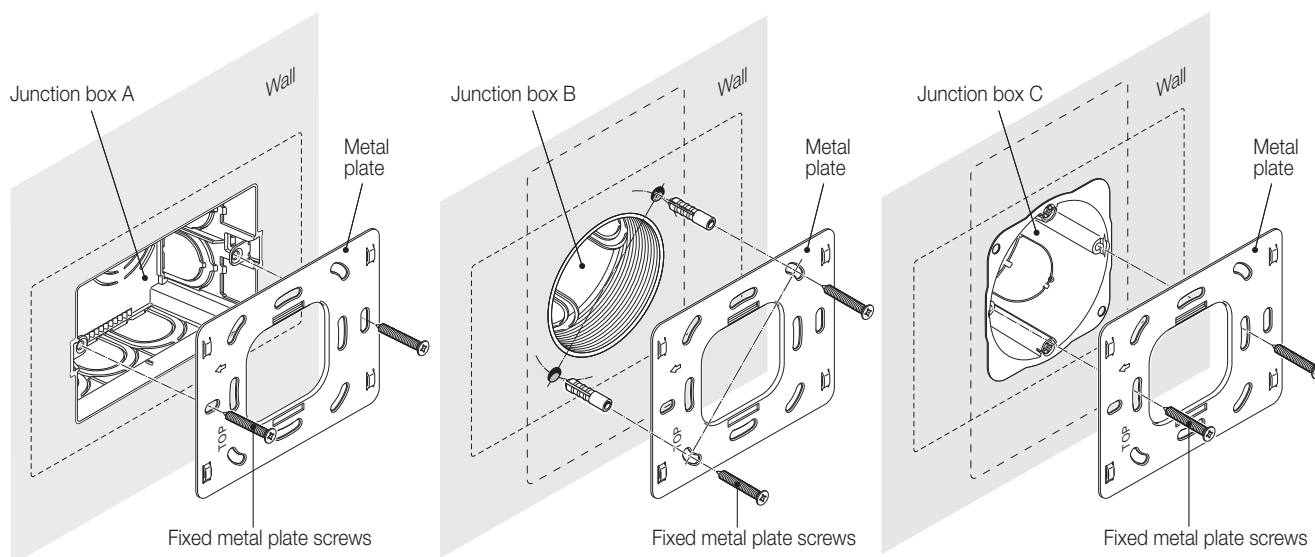

Fig. 3.3.2.1
2. (1) Remove the connection terminal on the device and connect it correctly according to the wiring instructions. After wiring, install the terminal to the corresponding position, then the wiring installation is finished, as shown in Fig. 3.3.2.2.